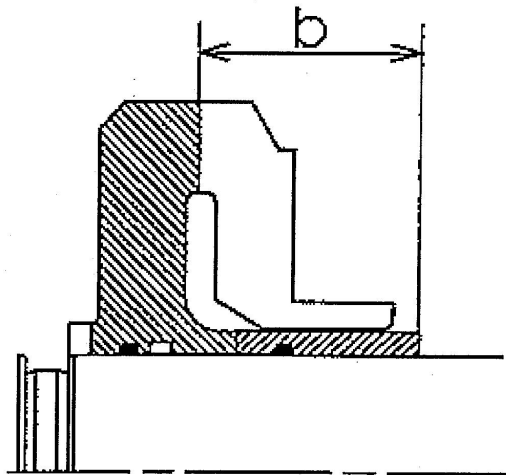

Fig.13 Adjusting Distance "b" in Rotor
- (2) Measure the distance “b” between the contact surface of balancing disc (6010) and the end face of balancing sleeve (5252). (see Fig.13) refinish (adjust) the balancing sleeve (5252) so that $b = a - 0.3 - 0.5$ mm is reached. In this case, re-finishing shall be performed carefully not to interfere with the parallelism of the balancing sleeve (5252) and faces. The end face to face parallelism shall be 0.02 mm max.